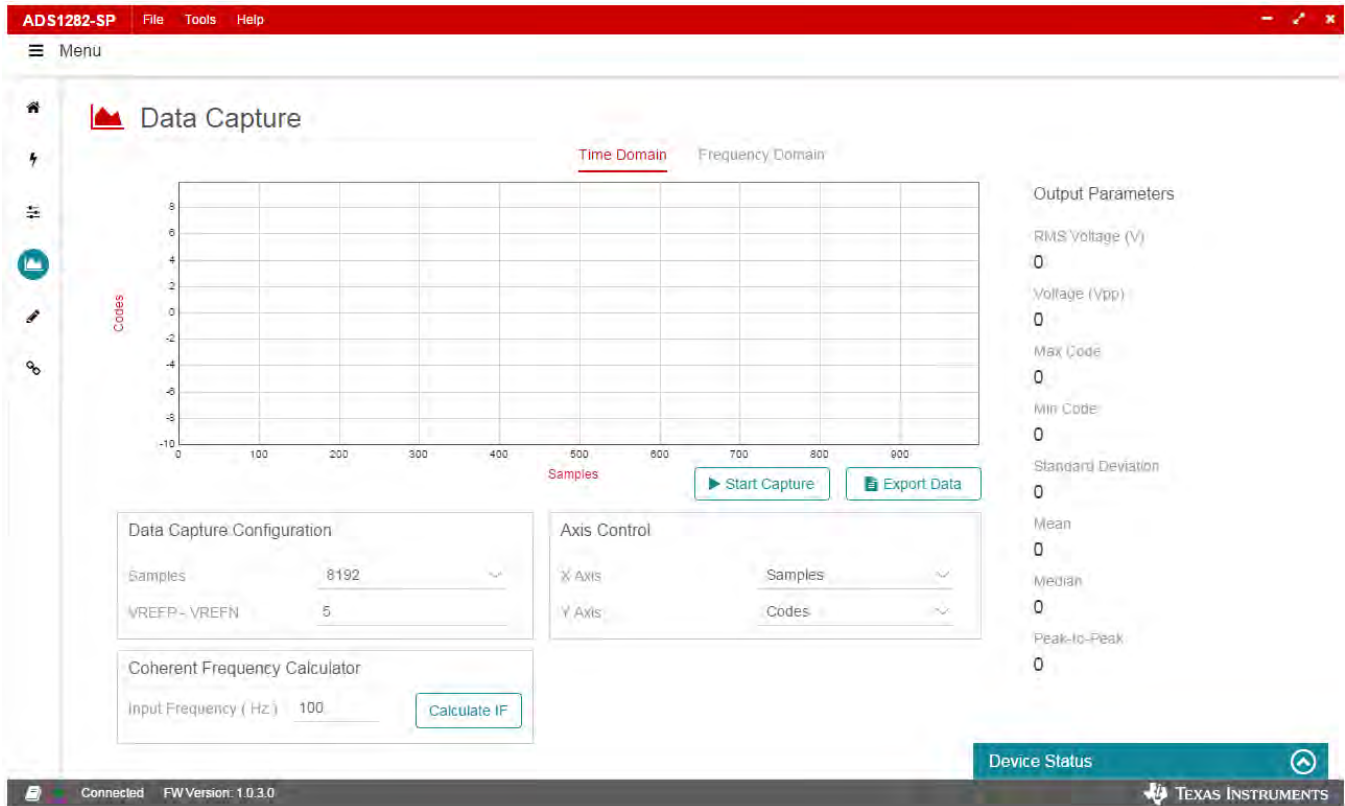
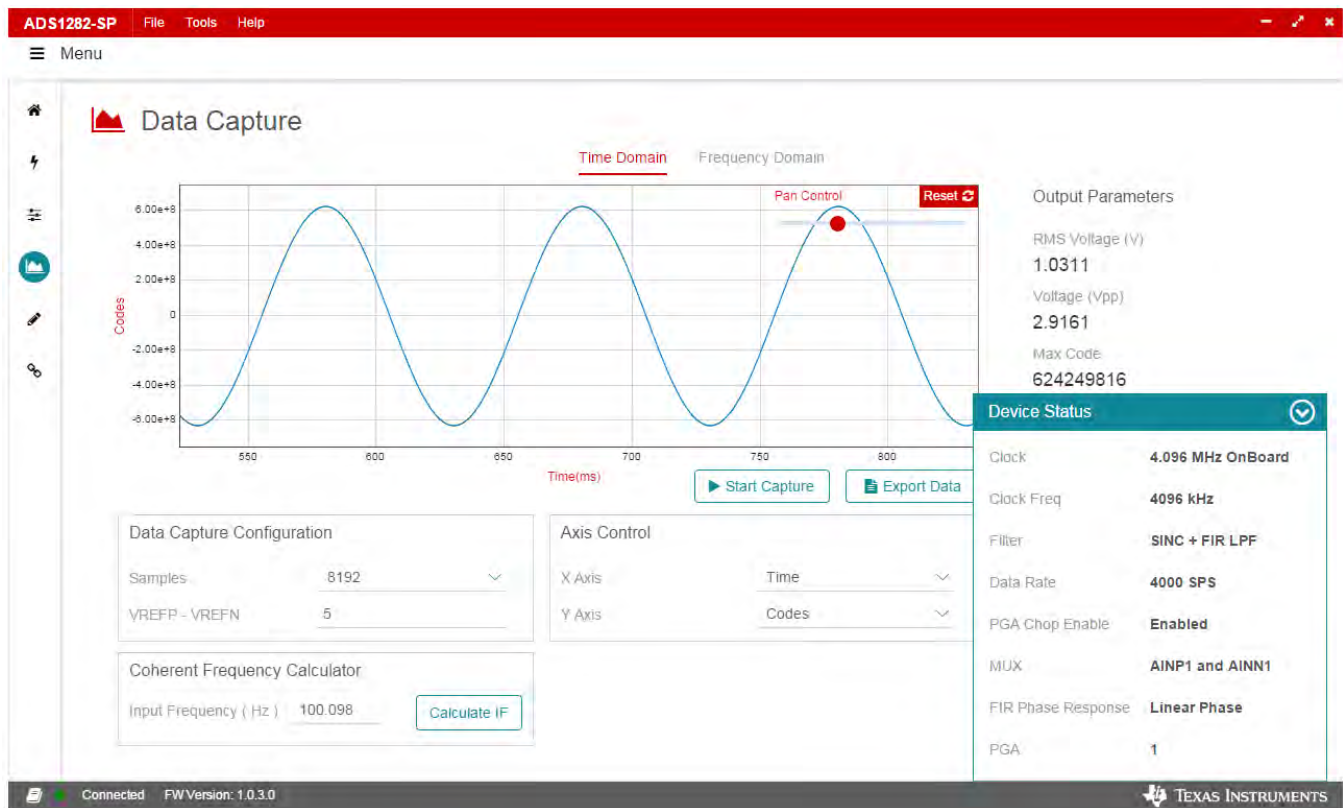

Figure 28. ADS1282-SP GUI Data Capture
Figure 31. ADS1282-SP Data Capture Zooming
The **Data Capture** page, shown in Figure 28, displays and processes data when the **Start Capture** button is pressed. The two modes of graphing, (1) **Time Domain** and (2) **Frequency Domain**, are selected by clicking the link above the graph with the same name.
The **Data Capture** page, shown in Figure 28, is where captured data is displayed and analyzed. The two modes of graphing, (1) **Time Domain** and (2) **Frequency Domain**, are selected by clicking the link above the graph with the same name.
As seen in Figure 28, there is a small panel in the bottom right corner of the GUI labeled **Device Status**. Click this panel to see the present configuration of the device as shown in Figure 31. This panel is available on all GUI pages with the exception of the **Introduction** page and the **Collateral** page.